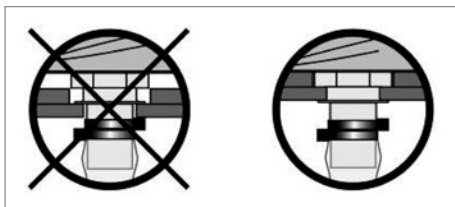

Fig. 13
- Maneuver the bag bottom port so that the groove in the bottom port is inserted with the fixed portion of the bottom gate. (see Fig. 13).